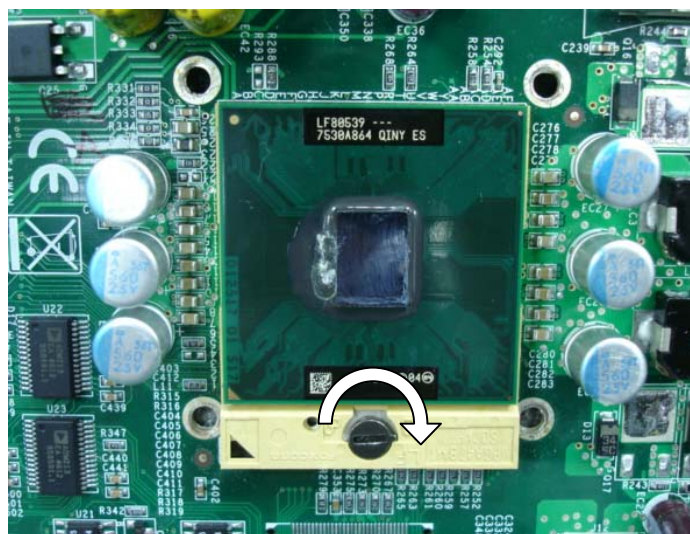

Figure 5-2
- (2) After CPU is installed, please make CPU has been secure. To secure installed processor, please refer to Figure 5-2